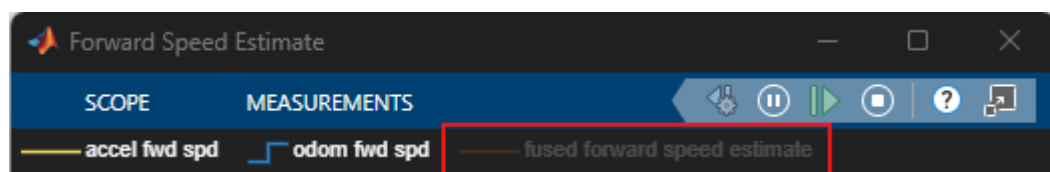

Figure 4: Enable the fused forward speed estimate from the scope legend
- Run the model. In the Forward Speed Estimate scope, enable the **fused forward speed estimate** signal by clicking the signal name on the legend, shown in Figure 4 below. While observing the Forward Speed Estimate scope, let the QBot idle for 30 seconds and then drive the QBot around. Compare the fused estimate to the estimates from the individual sensors. Stop the code.